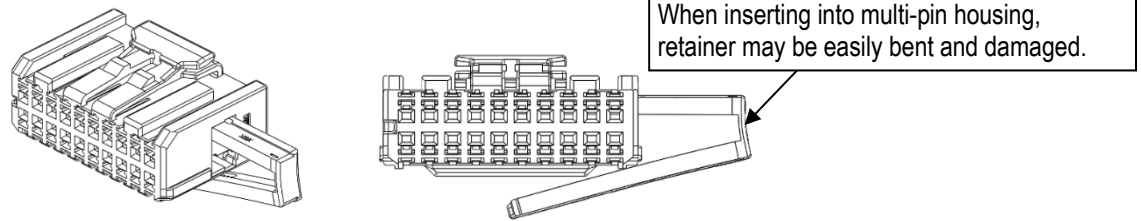

Fig34. Insufficient retainer installation
④ Do not forcefully insert in any other position than those shown in Fig.34.
- ① Retainer must be inserted in the orientation instructed. Inserting retainer in any other orientation may result in damage or deformation. (see Fig.34,35)
- ② If there is any damage or deformation, do not use the damaged item. Replace the item with a new one.